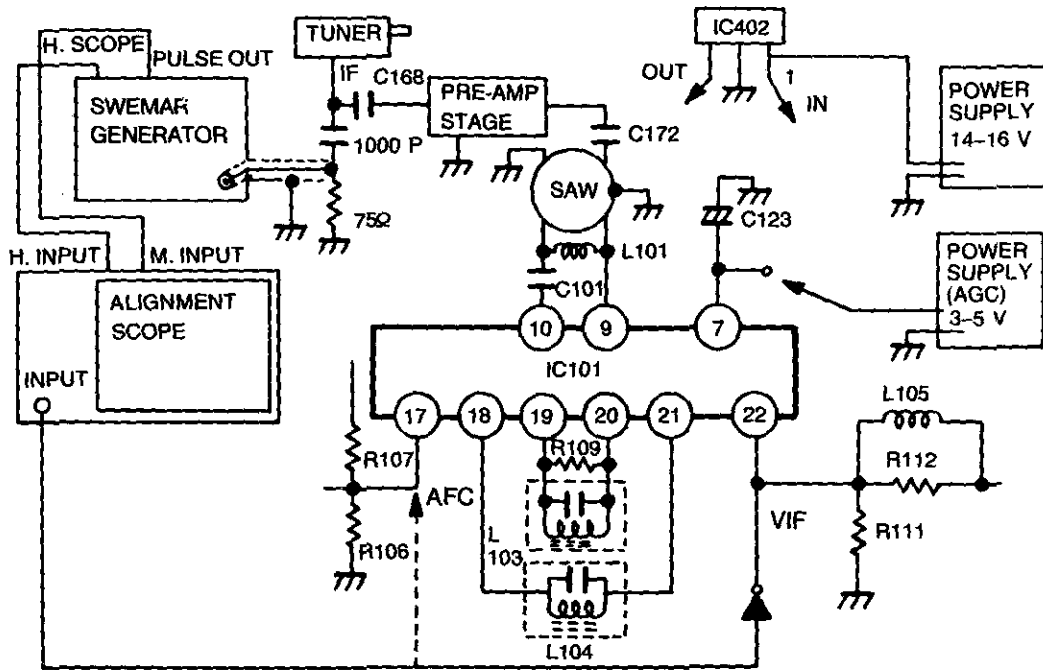

Figure 9
### PRELIMINARY STEPS (See figure 9)
- (1) Connect the output of the SWEEP MARKER GENERATOR to the output terminals of Tuner (IF OUT or SAW FILTER) as shown in figure 9.
- (2) Couple the H-scope terminal of the swemar generator to the H-input terminal of the alignment scope terminal and the pulse out terminal to marker input terminal.
- (3) Apply the detected output from the pin 22 of IC101 in the main PCB assembly to the input terminal of the alignment scope.
- (4) Apply A.G.C. voltage to the pin 7 of IC101. (about  $4.5 \pm 0.5$  V)
- (5) Apply 16 V D.C. to the pin 1 of connector IC402.